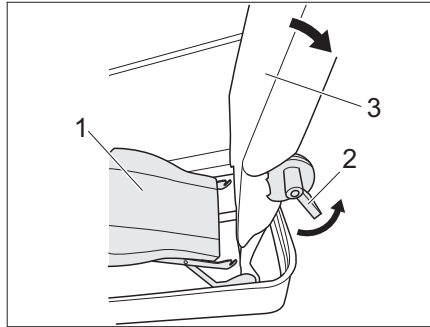
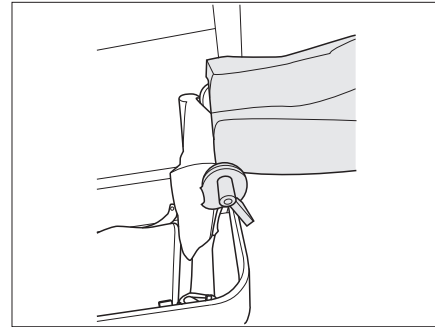

Fig. 207 Unhook the seat
Fig. 208 Turn seat back 90° to the rear
- Unlock (Fig. 207,1) the seat and move it downwards.
- Engage lever 1 (Fig. 207,2) and turn the seat back (Fig. 207,3) 90° towards the rear (Fig. 208).